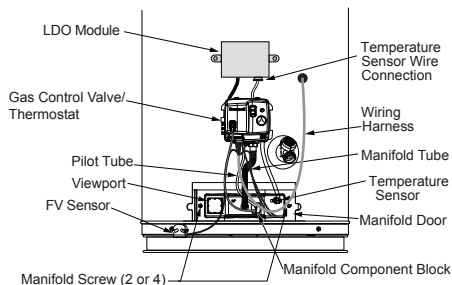

Figure 50 - Front view of water heater with outer door removed.
- 4 Remove the manifold screws (1/4" nut driver) securing the manifold door to the combustion chamber (Figure 50).